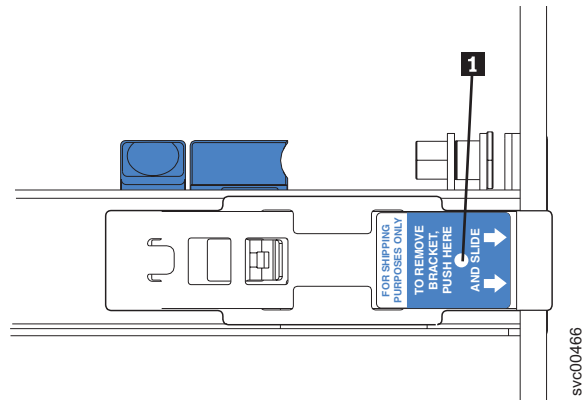

Figure 26. The release tab on the shipping bracket
3. Optionally, press on the release tab **1** that is indicated on the shipping bracket (shown in Figure 26 on page 29), and remove the shipping bracket from the slide rail. Repeat this step for the other shipping bracket. Store the shipping brackets for future use.